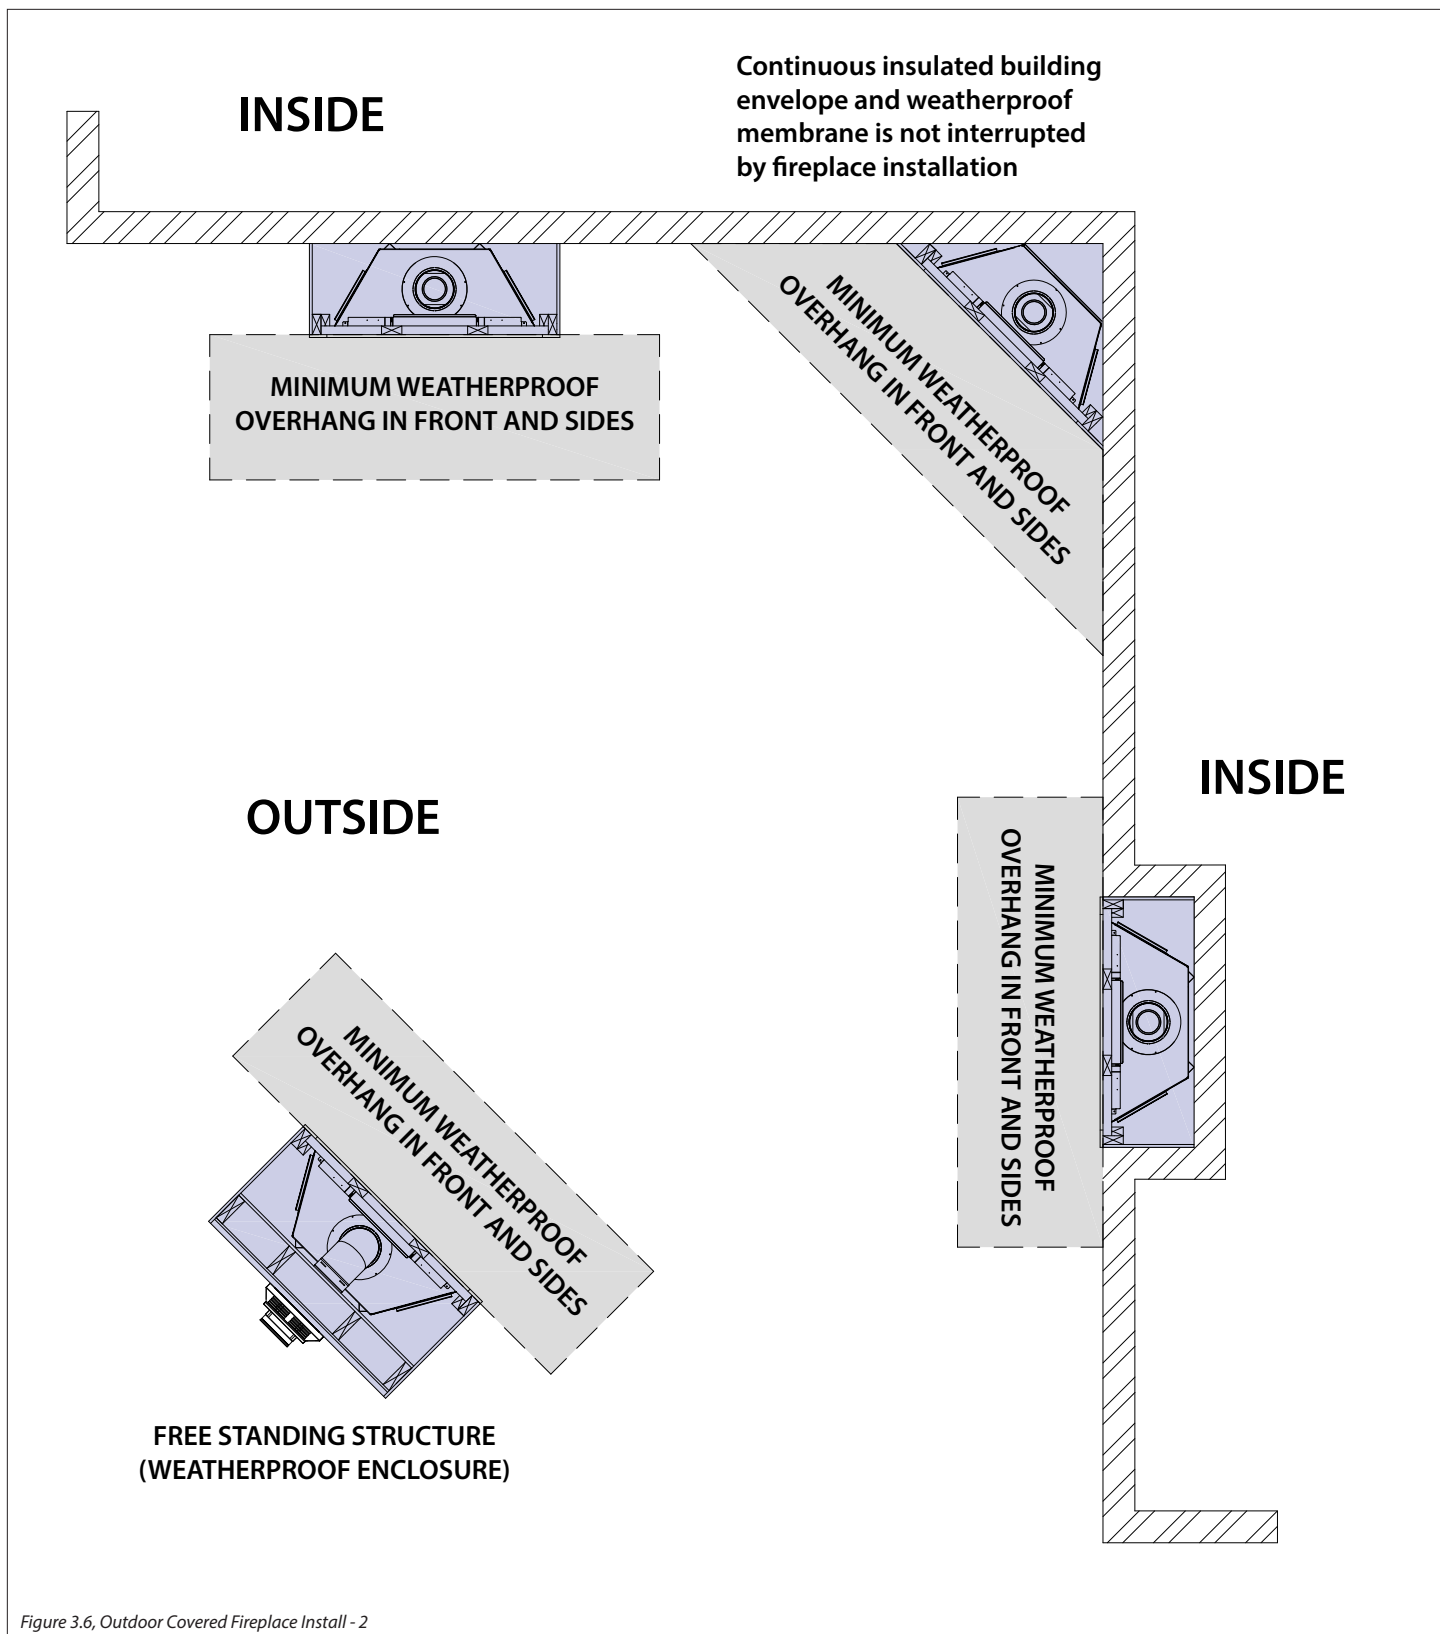

Figure 3.6, Outdoor Covered Fireplace Install - 2
- The continuous insulated building envelope and weatherproof membrane is not to be interrupted by fireplace installation. See Figure 3.6 on the following page.